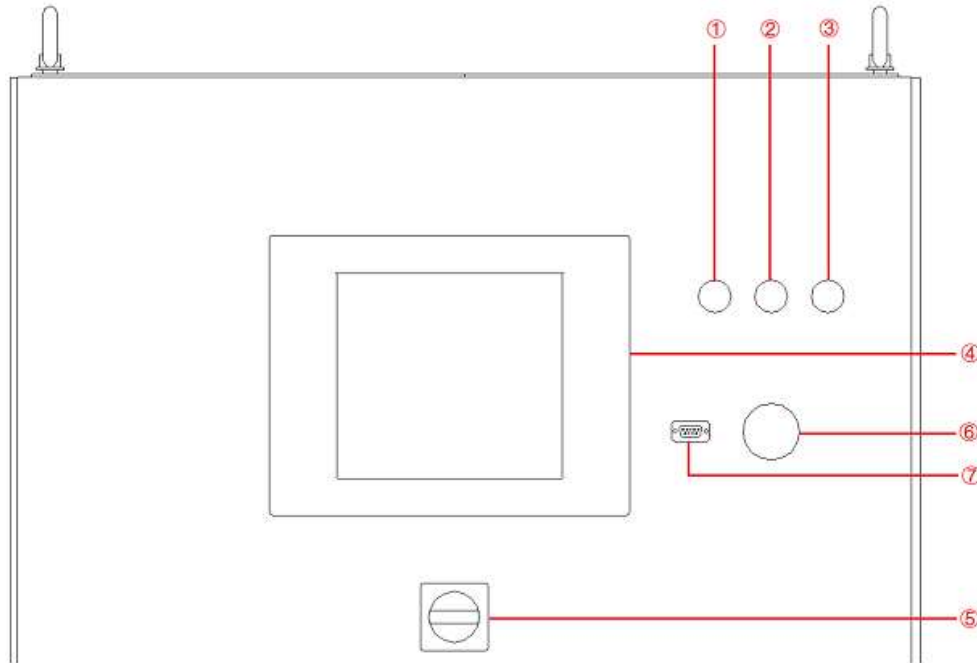

Figure 3-9 Front panel
Step 2: Turn the power knob counterclockwise (Figure 3-9⑤).